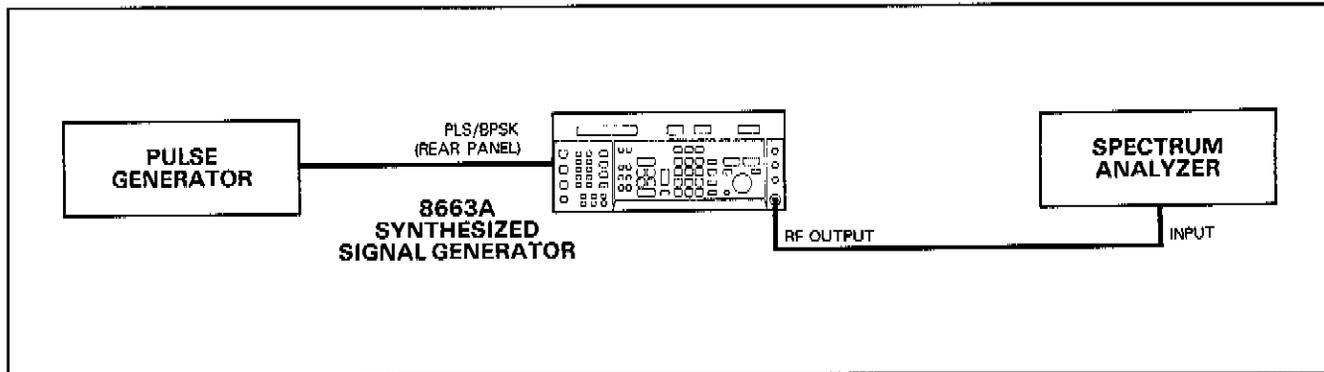

Figure 4-6. BPSK Test Setup
1. Connect the equipment as shown in Figure 4-6.